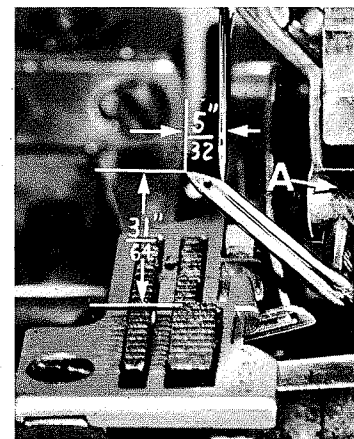

Fig. 10
resetting is necessary, do it by moving the upper looper holder (A, Fig. 10). Figure 10 represents the dimensional setting for Styles 39500 FA, FB, GS, JE and JG.
Next, turn handwheel until looper is at the left end of its travel; check dimensions of upper looper point with respect to needle and throat plate (Fig. 10). If
If it becomes necessary to move looper thread pull-off (AF), be sure to take up all end play in needle drive shaft before tightening. If upper looper is located so that it is higher over throat plate than recommended in Fig. 10, the purl will tend to form near top edge. If upper looper is too low, the purl will form nearer bottom edge.